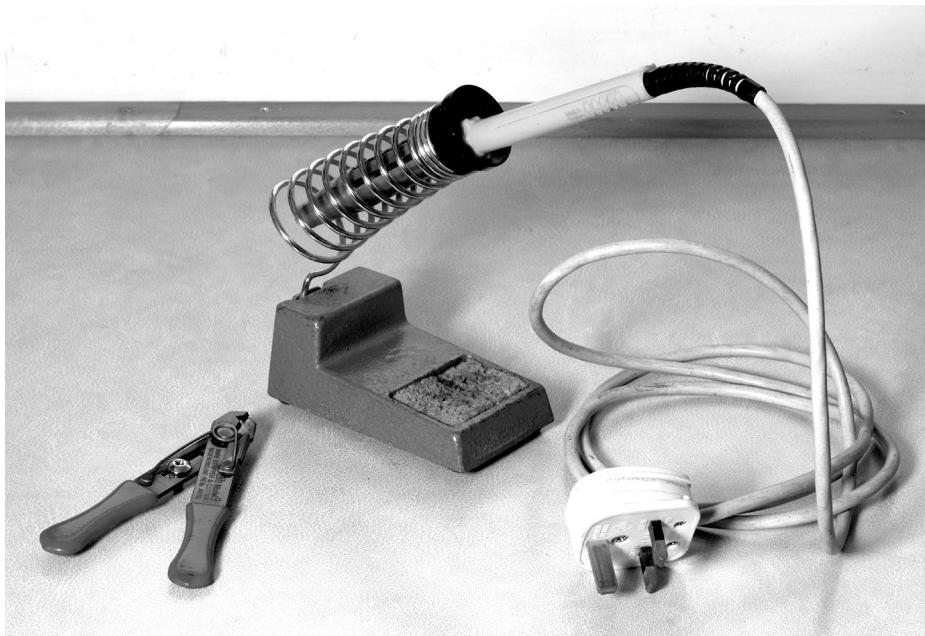

Fig. 4
- 2 (a) Fig. 4 shows a soldering iron and wire strippers.